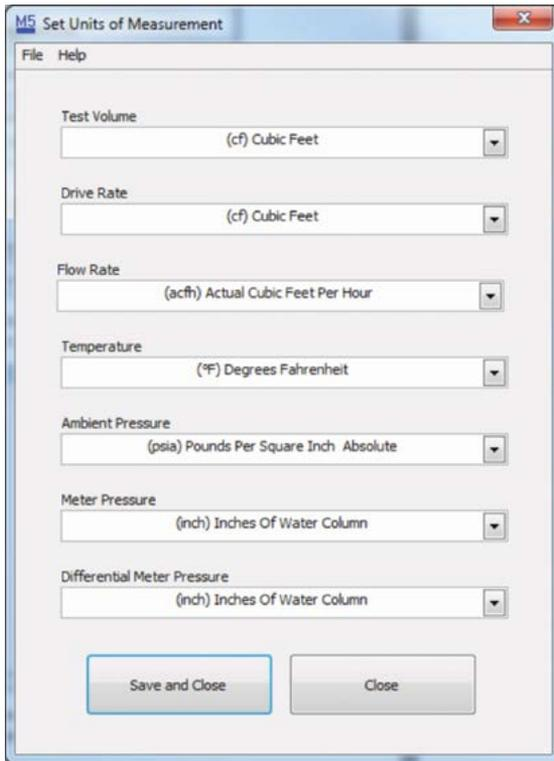

Figure 115: Units of Measurement Window
5. A new window will appear, as shown in **Figure 115**. Review all the units of measurement available for change.